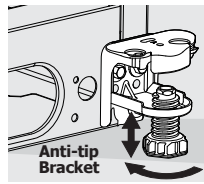

Figure 4 (some models)
- Some models are equipped with an anti-tip bracket (Figure 4). Lower it clockwise until it contacts the floor.